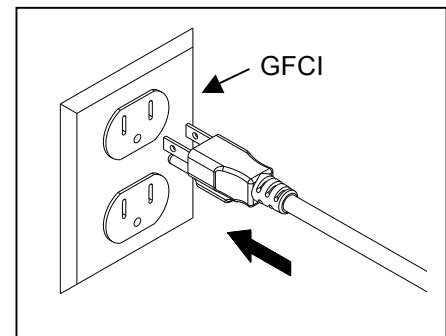

Fig. 17
- Connect the plug into a properly grounded electrical outlet. Fig. 17